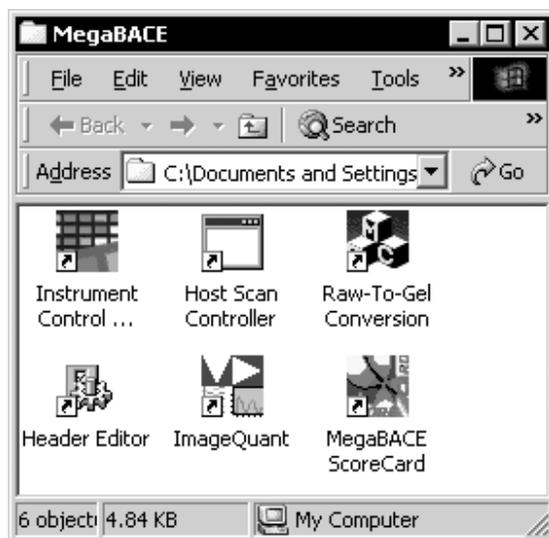

Figure 4-2. The MegaBACE folder.
1. On the Windows desktop (figure 4-2), double-click the **MegaBACE** folder to open the folder and display the icons for the MegaBACE software.
To start the Instrument Control Manager, double-click the **Instrument Control** icon in the **MegaBACE** folder on the Windows desktop (figure 4-2). The Instrument Control Manager starts and displays the Plate Setup window (figure 4-3).